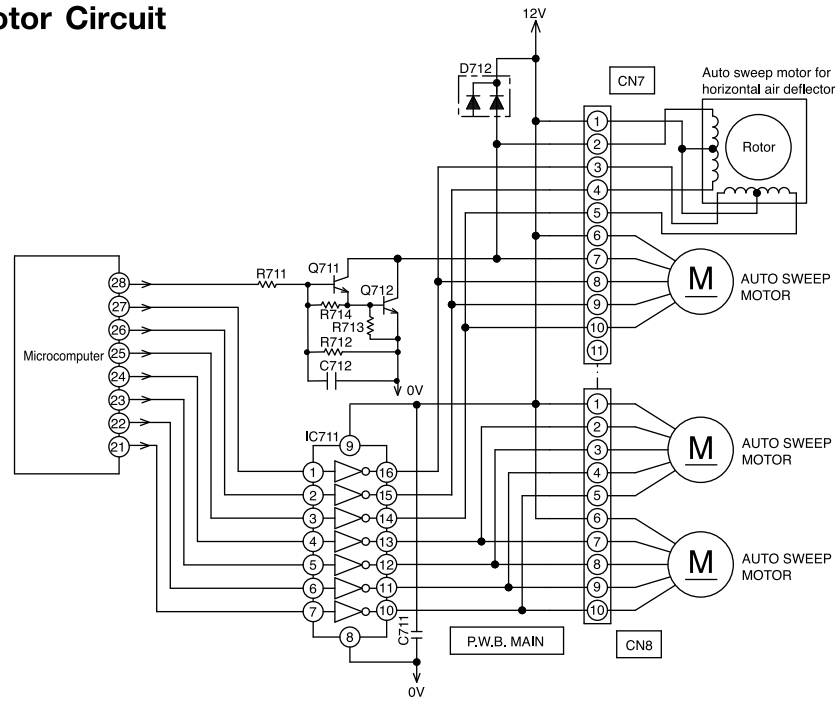
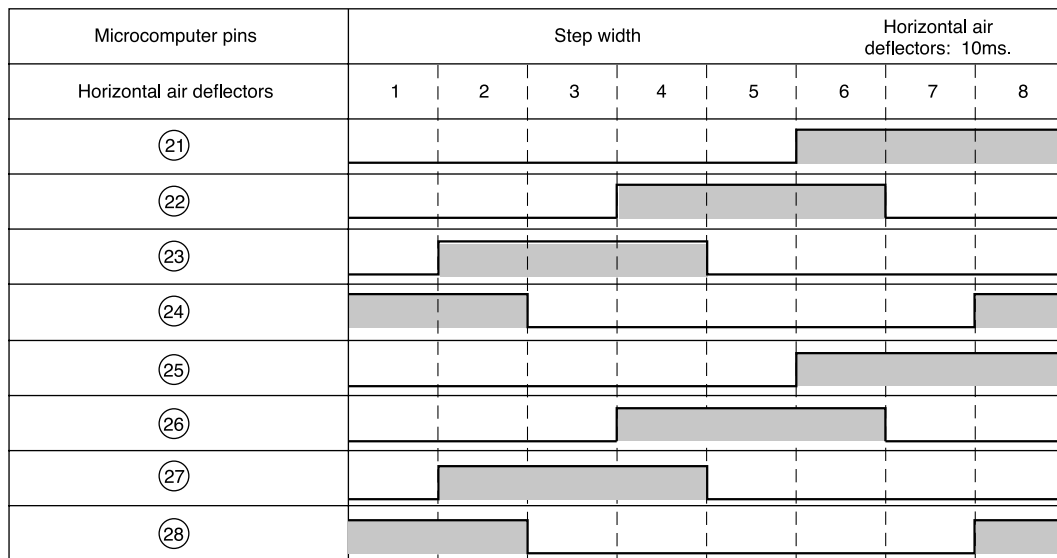

Fig. 3-1
Fig. 3-2 Microcomputer Output Signals
- Fig. 3-1 shows the Auto sweep motor drive circuit; the signals shown in Fig. 3-2 are output from pins ②① – ②⑧ of microcomputer.
- As the microcomputer's outputs change as shown in Fig. 3-2, the core of the auto sweep motor is excited to turn the rotor. Table 3-1 shows the rotation angle of horizontal air deflectors.